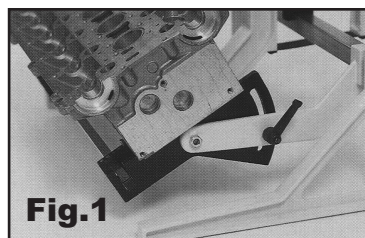

Fig.1
1. Place the cylinder head on the side supports protected by a plastic cover (fig. 1)
2. Manually adjust the side supports, tilting the cylinder head to the correct working angle, and lock them in position (fig. 1)
3. Use the dowel pins located at the brace plates, in the front square tube, to keep the cylinder head from sliding out of the working area, and keep it in correct alignment (fig. 1).
1. Posicione la culata (cabeza) a trabajar sobre los soportes laterales protegidos con una base de plástico (fig 1).
2. Manualmente ajuste los soportes laterales, virando la culata (cabeza) hacia el ángulo apropiado de alineación de válvulas verticalmente, y apriételos en posición (fig 1).